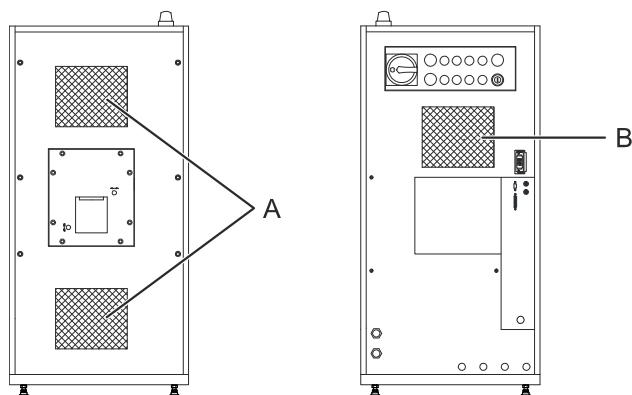

Figure 48: Location of air intake and exhaust
The laser device has two air intakes on the beam exit side (see Figure 48, A) and a central exhaust outlet with moderate flow rate on the connection side (B).